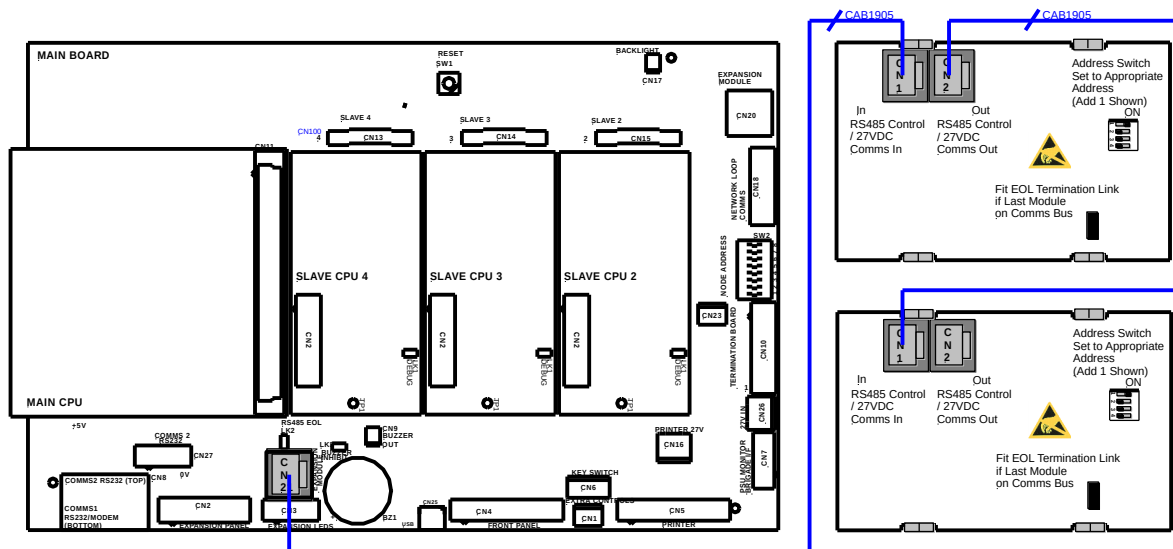

Figure 3: General Wiring Zone Disable and Indicator Card (FireFinder Plus)
4. Using the supplied RJ45 cable connect the module to the applicable Fire Alarm Control Panel (FACP) (see Figure 3 & 4)